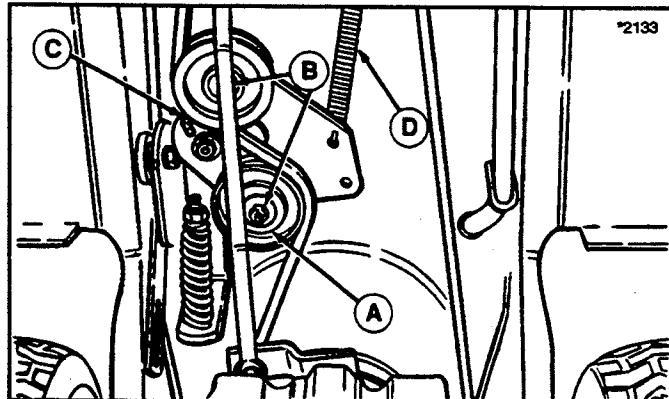
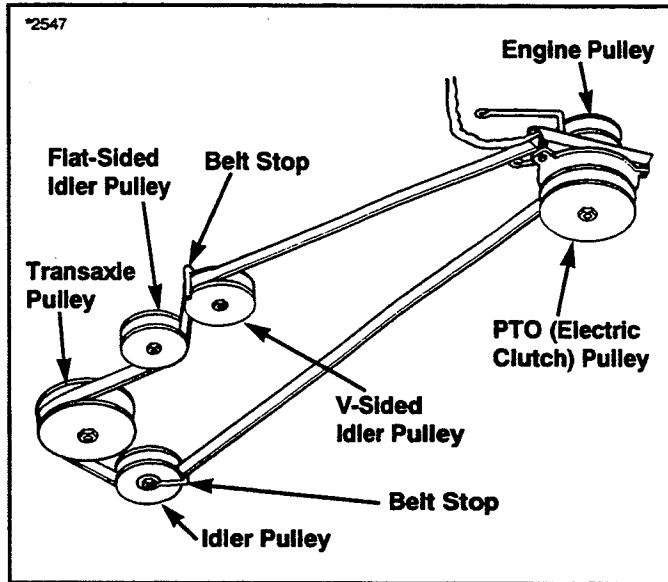

Figure 38. Drive Belt Idler Pulley
Figure 40. Tractor Drive Belt Routing - Gear Models
3. See figure 38. To remove the belt from the idler pulley (A), loosen flange whiz nuts (B). Slip belt from between belt stop (C) and idler bracket.
4. Release the parking brake. Rotate idler pulley to relieve spring tension and remove spring (D, figure 38).
8. See figure 40. Slip belt from the transaxle and idler pulleys. Loosen the belt stops on the idler pulley as necessary. Remove belt from the tractor.
9. Install new belt to the transaxle and idler pulleys as shown in figure 40. Adjust belt stops to $1/16" - 1/8"$ from belt.
10. Re-install idler pulley spring (D, figure 38) to frame with new belt routed between spring and bottom of frame.
11. Lock parking brake to position idler pulley bracket. Install new belt to the idler pulleys as shown in figure 38. Make sure belt is properly routed on flat and V-sided pulleys. Refer to figure 40 for proper routing. Tighten nuts (B, figure 38) securing pulleys.
12. See figure 40. Check belt routing around engine pulley, idler pulleys, and transaxle pulley. Check that the electric clutch, drag link and idler pulley spring are all correctly installed.